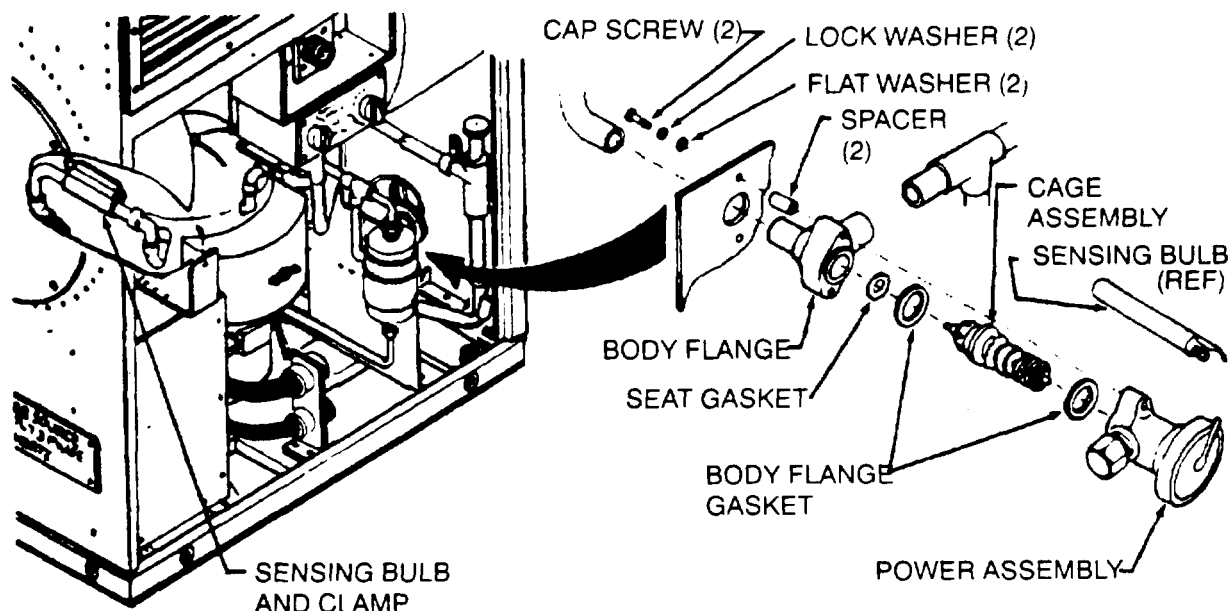

Figure 5-35. Liquid Quench Expansion Valve
- (1) If valve body flange was removed, purge the system with nitrogen and braze the two tubing joints. (See para 5-8 and para 5-9.)
- (2) See Figure 5-35 for valve component arrangement.
- (3) Place cap screws, lock washers, flat washers, and spacers through bracket and valve body flange.
- (4) Be sure that valve components are properly assembled and aligned. Secure power assembly to body flange.
- (5) Insert sensing bulb into its mounting loop clamp in its original position, and tighten the screw and nut. Be sure sensing bulb is making good metal-to-metal contact with suction line.
- (6) Reinstall and tape in place tubing insulation that was removed from suction line tubing, If it was damaged, replace with tubing insulation, item 17, Appendix E.
- (7) Replace the dehydrator. (See para 5-14.)